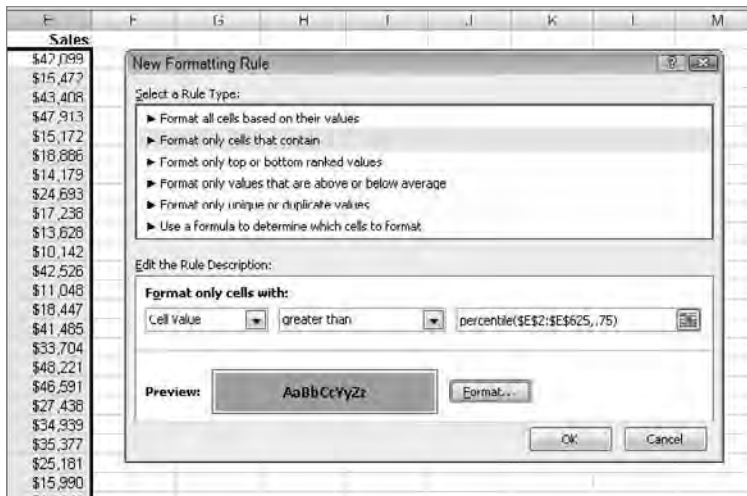

Figure 15.4: Many conditional options are predefined in Excel 2007.
3. From the list, select Highlight Cells Rules ⇄ More Rules to display the New Formatting Rule dialog box shown in Figure 15.4